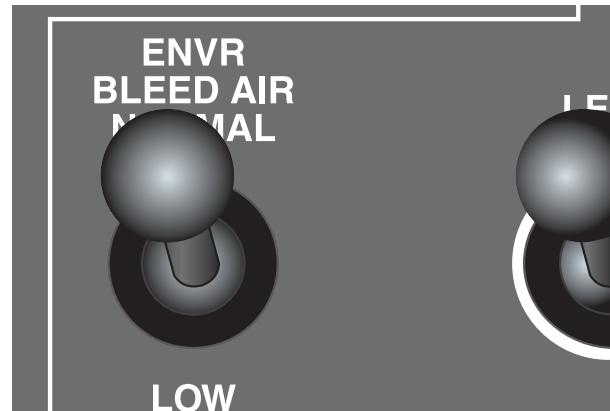

Figure 11-6 ENVIR BLEED AIR Switch
– LOW (Figure 11-6) in the ENVIRONMENTAL controls group on the copilot's left subpanel. The LOW position must be selected for takeoff when ambient temperature is above 10° C. NORMAL may be used for increased heating or if increased pressurization air flow is required.